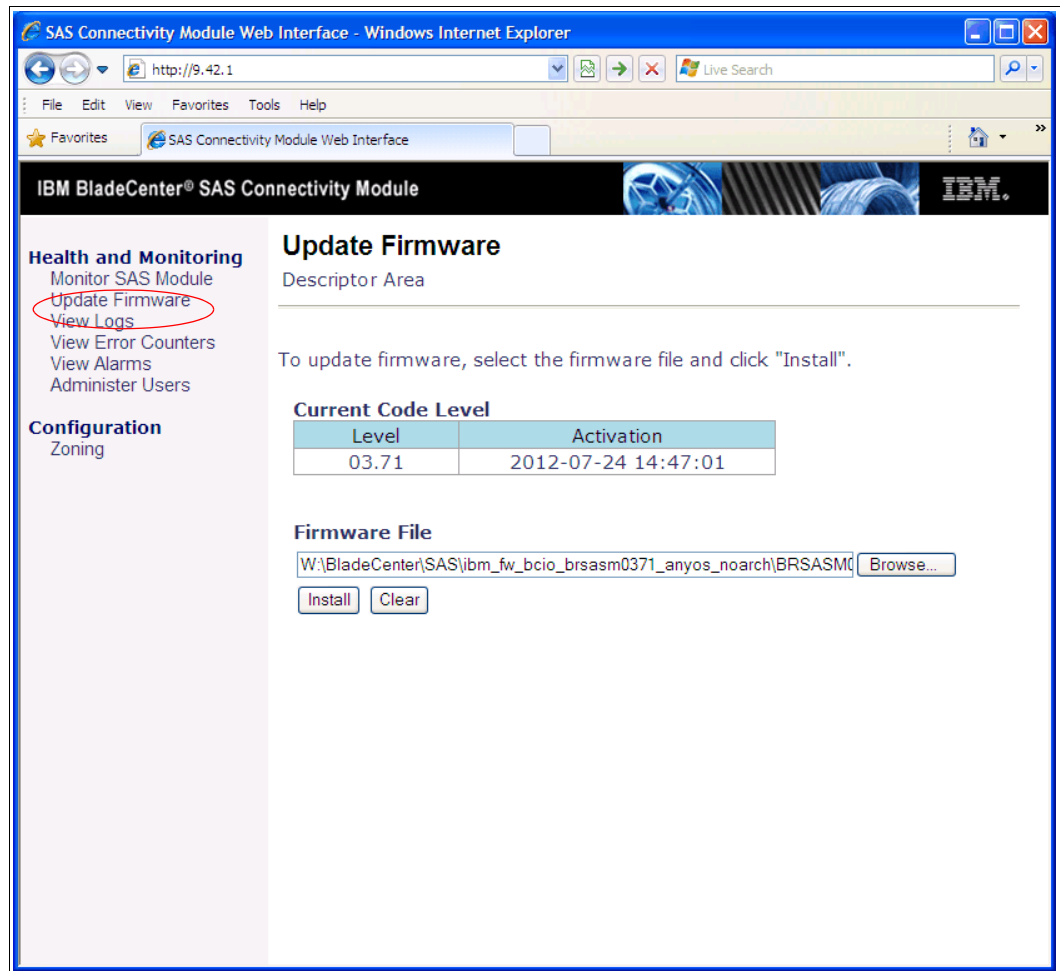

Figure 16-8 SAS Connectivity Module - Update Firmware
2. In the Monitor Module window, click **Update Firmware**. The Update Firmware window opens, as shown in Figure 16-8. The current firmware level is also displayed.